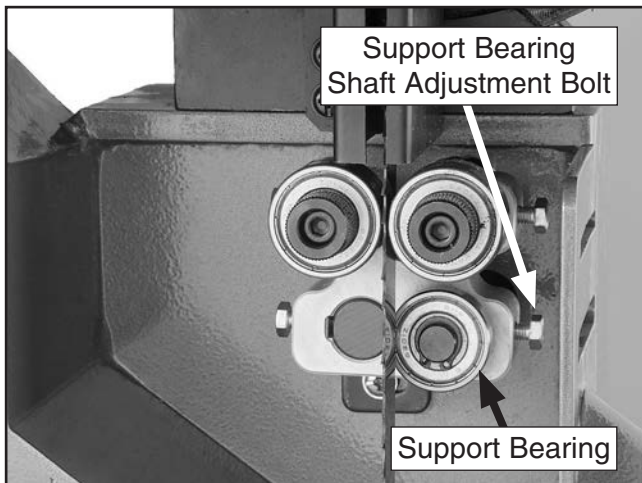

Figure 29. Lower support bearing controls.
3. Open both wheel covers, then familiarize yourself with the lower blade bearing controls shown in **Figures 29–31**.